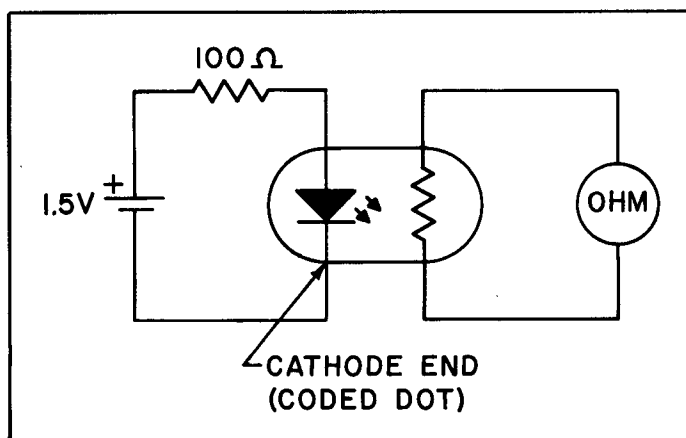

FIGURE 17. OPTO-ISOLATOR TEST
2. With ohmmeter connected as above, connect battery and resistor as shown in Figure 17, Page 17. (**IMPORTANT:** Connect only as shown to avoid damage to the LED.) The resistance reading should drop to less than 1000 ohms. Replace U1 if these conditions are not met.